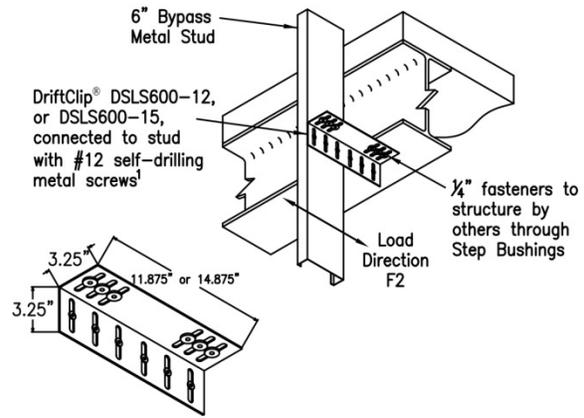

Figure 7 – DriftClip® DSLS600-12 and DSLS600-15
**3.3.3 DriftClip® DSLS:** DriftClip® DSLS600-12 and DSLS600-15 are L-shaped angles that connect 6 inch deep (152 mm) cold-formed steel framing of exterior curtain walls to a building's structural steel spandrel beam or structural concrete floor slab, while allowing a maximum of 2 inches (51 mm) of vertical and horizontal movement between curtain wall elements and the primary structure. The minimum base-metal thickness of the clips is 0.0966 inch (2.5 mm). The -12 and -15 following the model number DSLS600 represent the total length, in inches, of the connector. The two legs of the DriftClip DSLS600-12 and -15 connectors are equal in length, and each has two or three slots perpendicular to the heel of the angle, each  $\frac{3}{8}$  inch (9.5 mm) wide by  $2\frac{3}{8}$  inches (60 mm) long. The leg that is fastened to the curtain wall stud has bushings designed for #12 self-drilling/self-tapping steel screws installed in the centers of the slots. The other leg, which is fastened to the structure, has bushings designed for  $\frac{1}{4}$ -inch diameter (6.4 mm) fasteners installed in the centers of the slot. Refer to Figure 7 for overall dimensions of each DriftClip DSLS connector and a typical installation detail.